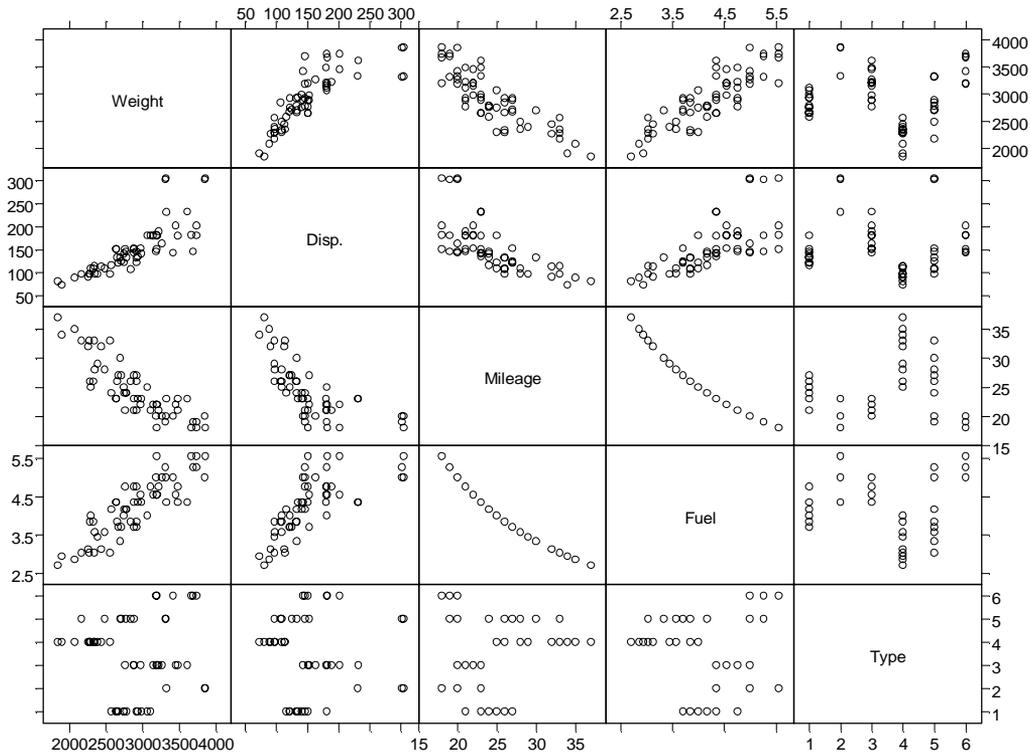

Figure 3.30: Scatterplot matrix of the `fuel1.frame` data. A number of strong relationships appears.
- Click the **Scatter Matrix**  button on the **Plots 2D** palette. The resulting scatterplot matrix is shown in Figure 3.30.
Now let's add histograms of the five variables displayed in Figure 3.30:
S-PLUS can fit a variety of lines through our scatter plots. We can fit least squares, robust, kernel, loess, and smoothing splines through the matrix plots. For example, to add least squares lines to Figure 3.30, do the following: